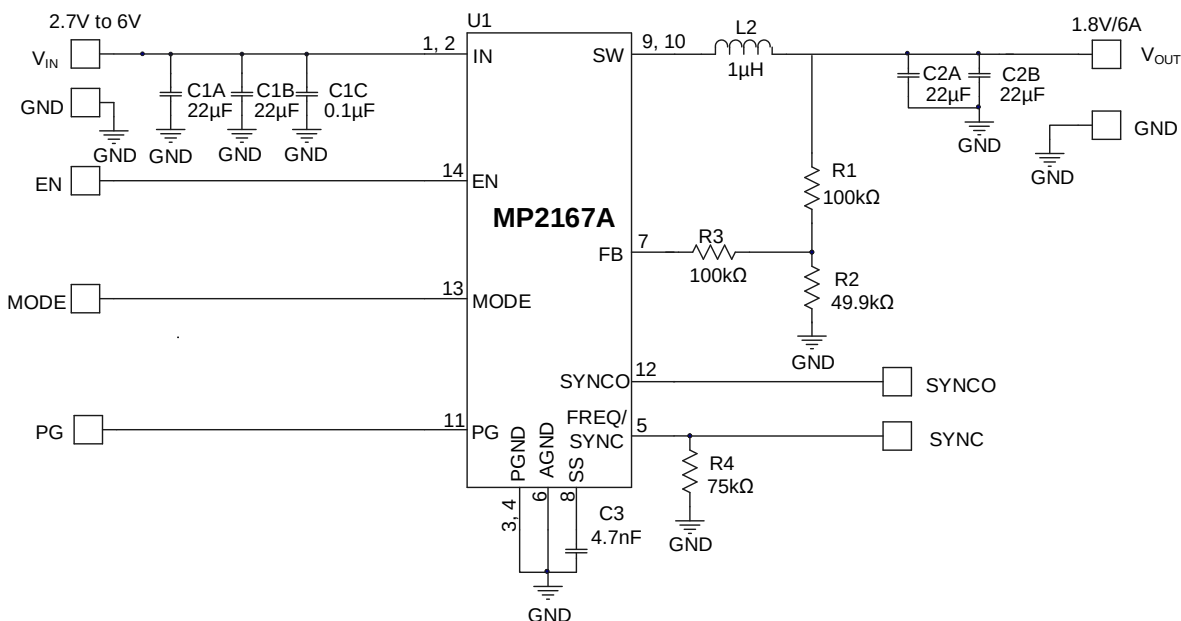

Figure 5: Typical Application Circuit ($V_{OUT} = 1.8V$, $I_{OUT} = 6A$)
- 7) The recommended PCB layout is based on the circuit in Figure 5 on page 24.